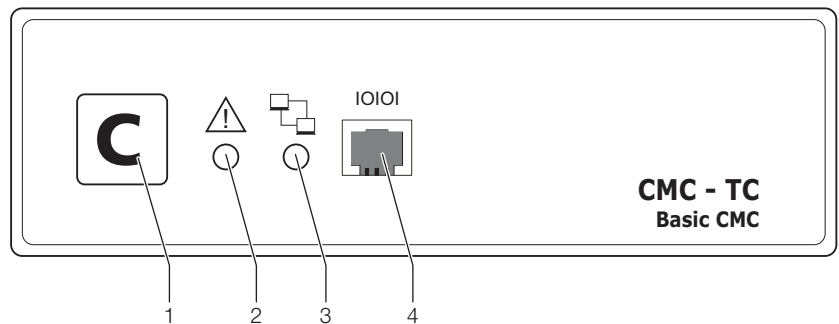

Fig. 45: Control unit Liquid Cooling Package (Basic CMC) – front
After turning on for the first time or after repair work, it is possible that the Liquid Cooling Package Plus will operate in emergency operation mode. In order to switch the unit to normal operation (control operation), press down the "C" button (Fig. 45, item 1) once quickly.
By connecting the Liquid Cooling Package Plus control unit (Basic CMC) to a network, you are able to call up various measurements and warning or alarm messages. These may then be further processed (e.g. via a Web browser, SNMP, etc.). Furthermore, various values can be set over the network and then sent to the control unit. If the control unit is connected to a network, the status LED (Fig. 45, item 3) flashes when the unit is polled over the network via the Ethernet interface.